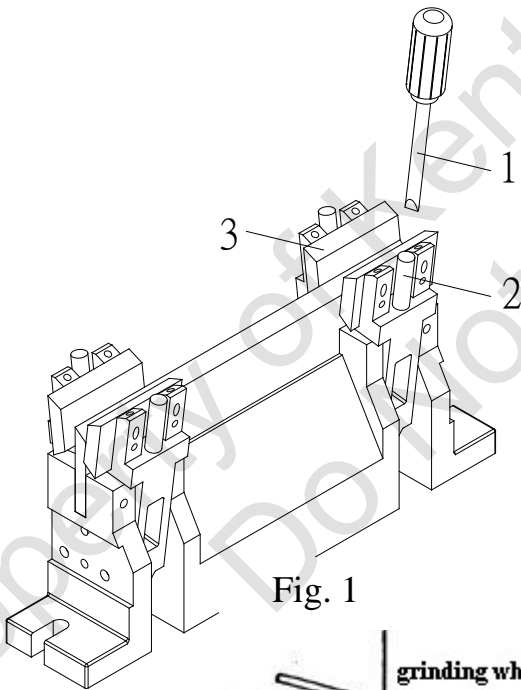
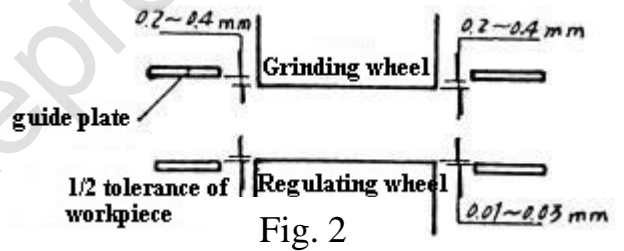
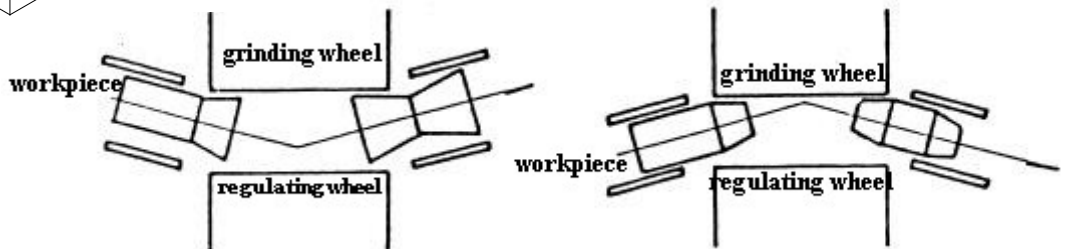

Fig. 1
Fig. 2
Fig. 3
The regulation of thrufeed guide plate is shown in (fig. 1). Turn regulating screw (2) by screwdriver (1) to make guide plate (3) close or open to match workpiece size where regulating scale is shown on (fig. 1). The guide plate should be parallel to both grinding wheel and regulating wheel and the entry of regulating wheel's edge is $1/2$ tolerance of workpiece. The exit edge has the gap of 0.01 to 0.03mm and both entry and exit of grinding wheel's edge takes gap of 0.2 to 0.4mm (fig.2). The test method is to put a finish-grinded workpiece to move from entry to exit back and forth to ensure that it is passed smoothly and moves in one direction. If guide plate and regulating wheel are not on the same line, workpiece will become concave or convex as in fig. 3.